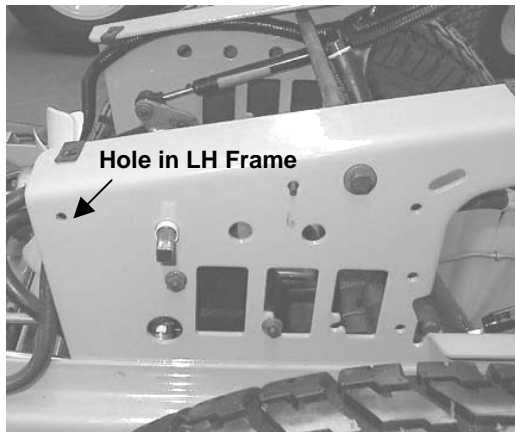
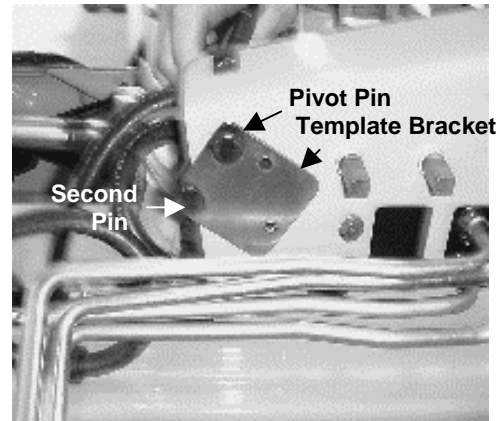

Figure 4
Figure 5
- D) Take the template bracket (A) from the service kit. Locate the hole in the LH tractor frame, as shown in figure 4, and align the pivot pin on the template bracket (A) with the hole in the frame. Rotate the template bracket (A) counter-clockwise until the second pin on the template bracket (A) contacts the frame. See Figure 5. Hold the bracket in position and use a center punch to mark the center for the two holes. Remove bracket.